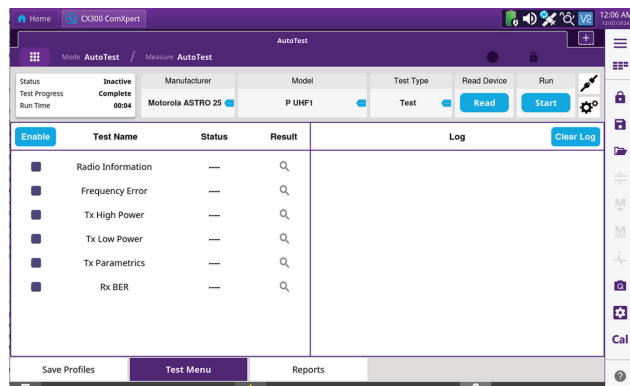

Figure 6
- At this point the user is ready to Start **“Test”** or **“Align and Test”**. (Fig. 6)